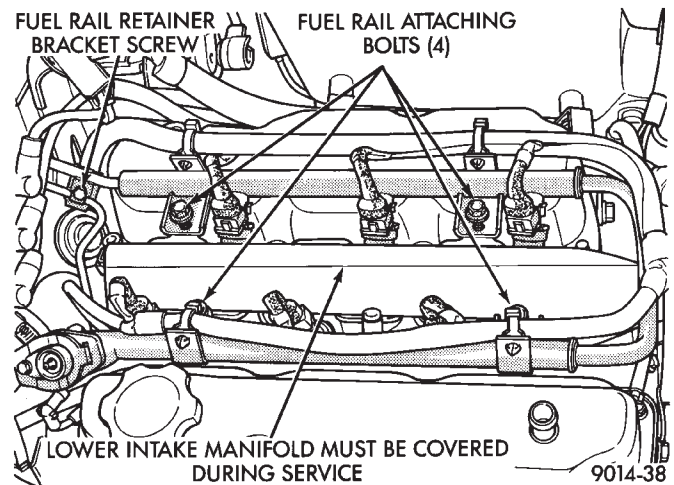

Fig. 10 Fuel Rail Attaching Bolts
(15) Cover intake manifold with suitable cover when servicing (Fig. 10).
(16) Remove vacuum harness connector from Fuel Pressure Regulator.
(17) Remove fuel tube retainer bracket screw and fuel rail attaching bolts (Fig. 10). Spread the retainer bracket to allow fuel tube removal clearance.
(8) Install the (4) fuel rail attaching bolts and torque to 22 N•m (200 in. lbs.) (Fig. 10).
(9) Install fuel tube retaining bracket screw and torque to 4 N•m (35 in. lbs.) (Fig. 10).